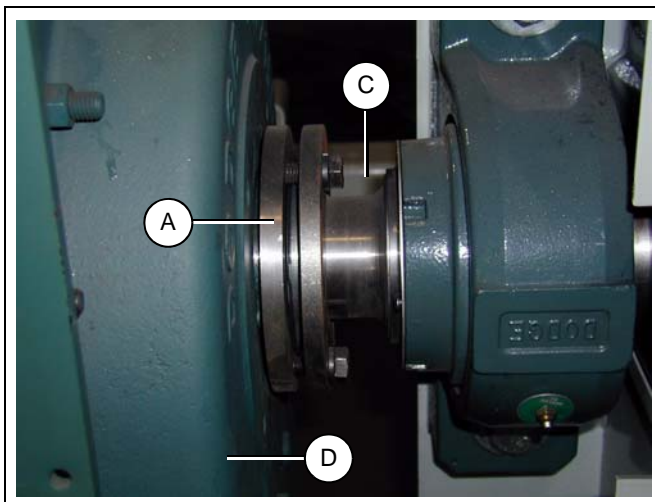

Figure 5D
5. Slide outside bushing onto shaft and attach to reducer drive. Once reducer drive is in place, fully tighten both bushings. (See Page 50 for more details.) (See Figure 5D.)